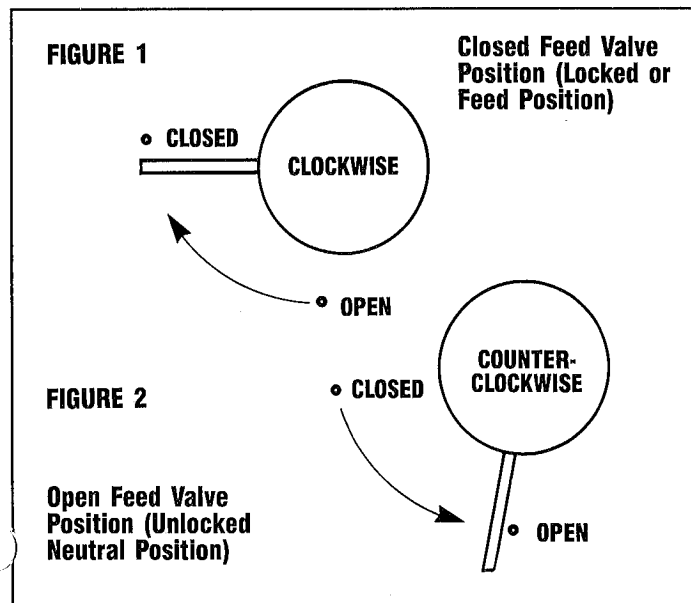

Figure 4
2. Place PT 2075 Porta-Matic over bore to be cut. Open feed valve and lower the cutter plate into the bore. Push down firmly on the mainshaft while rotating the cutter plate in the bore to ensure proper alignment. (See Figure 4)
3. With cutter plate centered in bore, align base plate with (3) cylinder head bolt holes in block maintaining as much baseplate-to-block contact as possible. Install washers and cap screws through baseplate and into block. (Handle may be swung up for easy access to cap screws).